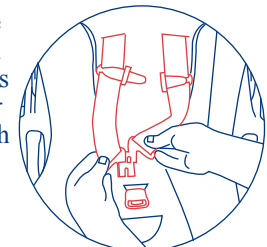

Fig. 39-1
i) Put the two buckle tongues together, overlaying the left buckle tongue onto the right buckle tongue, and insert the two joined buckle tongues into the harness buckle on the crotch strap. Make sure that you hear the tongues click into the buckle and check that both are firmly latched by pulling upward on the straps. Please see figure 39-1 and 39-2. **If the harness straps are not securely buckled, the safety seat will provide no protection for your child. DO NOT use the safety seat, even as a carrier, if the harness does not securely buckle. Please call Baby Trend at (800) 328-7363 for assistance.**